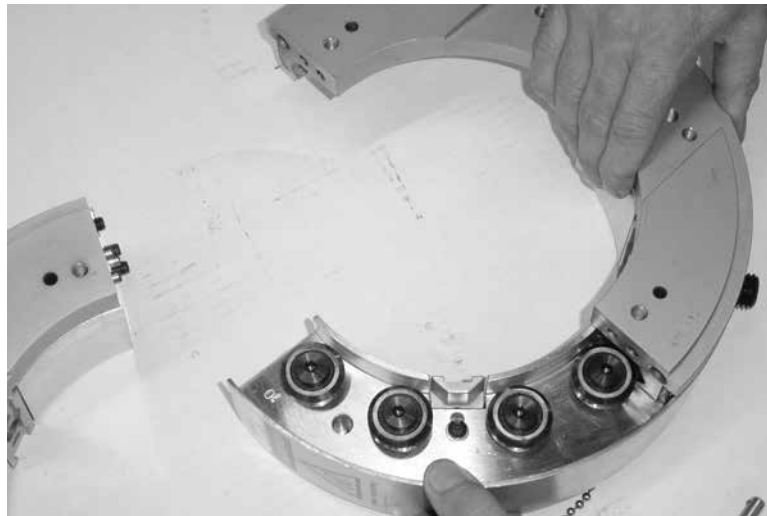

Figure 7-9. Separate the stationary and rotating rings.
23. Refer to the Figure 7-9 for your LCSF model, and locate the #1 position eccentric shaft.